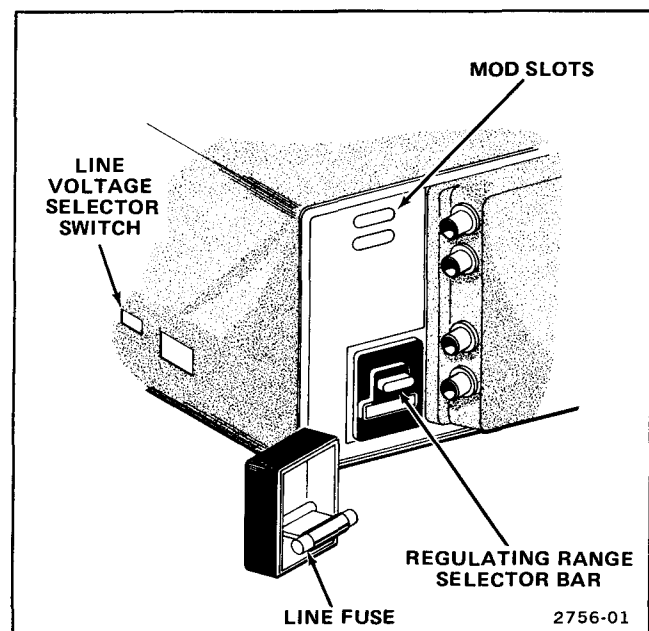

Figure 2-2. Regulating range selector and line fuse.
3. Pull out the selector bar (see Figure 2-2). Select a range from Table 2-2 centered about the average line voltage and plug the selector bar into the desired position.